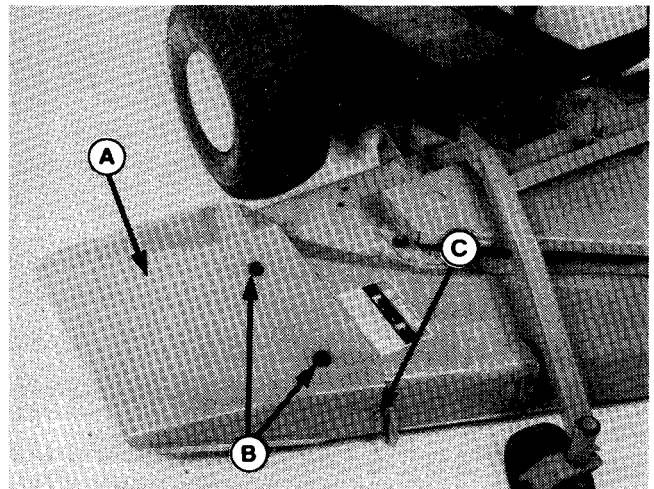

Figure 35.
To operate without the grass collection system, remove the blower by removing the front wing nut. Re-install the mower deflector (A, figure 35) by installing front nut (C) and inserting 3/8-16 x 3/4 carriage bolts in top holes (B). Install washers, lockwashers and nuts on carriage bolts.